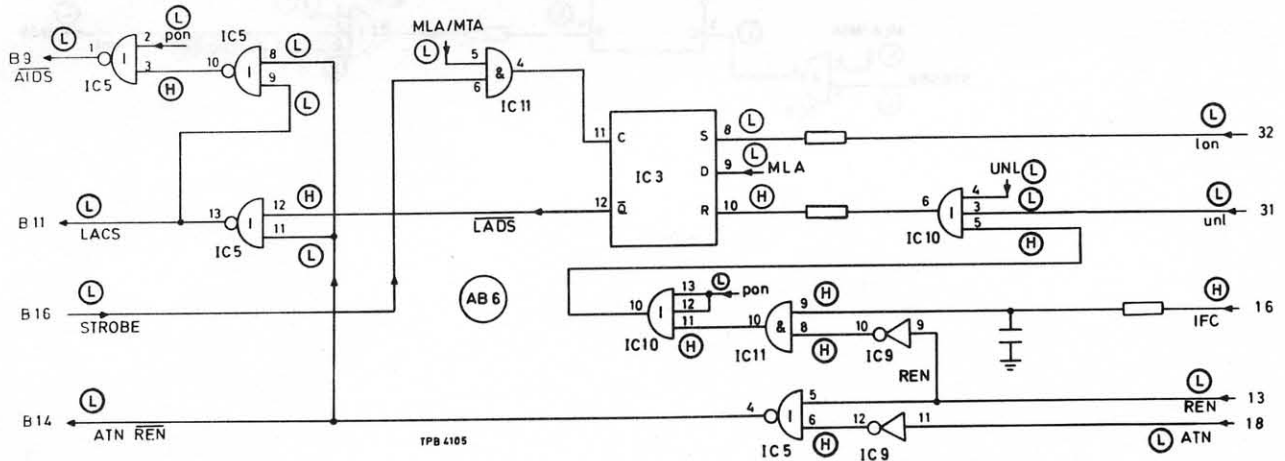

Fig. 11 'Unlisten fault' logic levels
- (1) Place AB6 on extender board and switch on. Set REN and ATN to 1. Set DIO lines to MLA and press EXECUTE.
- (2) Set ATN to 0. Hold IFC asserted and check AB6 IC3 pin 10 is high. If not, localize fault by comparing logic levels with those shown in Fig. 11.
- (3) Release IFC. Check IC3 pin 12 is high. If not, IC3b is faulty.
- (4) Check AB6, B11. If low, go to 'Acceptor handshake control fault (a)'.
- (5) If AB6, B11 is high, IC5d is faulty.